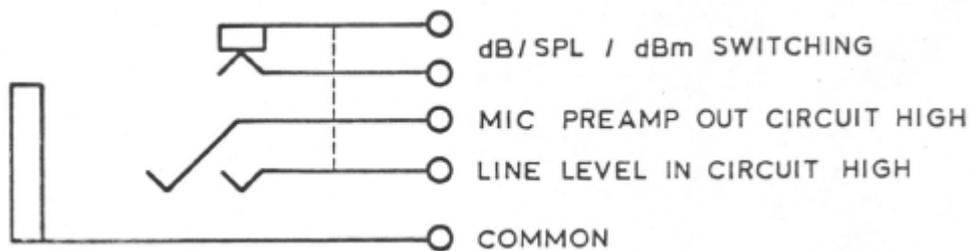

Figure 3.02
Please refer to Figure 3.02
3. See Section 3.01.03 and Figure 3.02
If an input signal is being fed to the System 200 Mainframe through its rear panel *LINE LEVEL INPUT CONNECTOR*, a dummy plug must be inserted in the front panel *LINE LEVEL INPUT CONNECTOR* so that the *dBm MODE* will be selected. Please refer to Figure 3.02